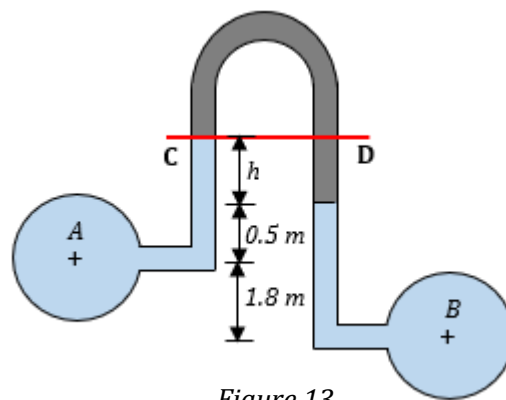

Figure 13
19. Figure 13 shows a differential manometer. Pipe A and B contains oil with specific gravity of 0.95. If the pressure at pipe A and B are 222.5 kN/m^2 and 165.0 kN/m^2 respectively, calculate the value of h .